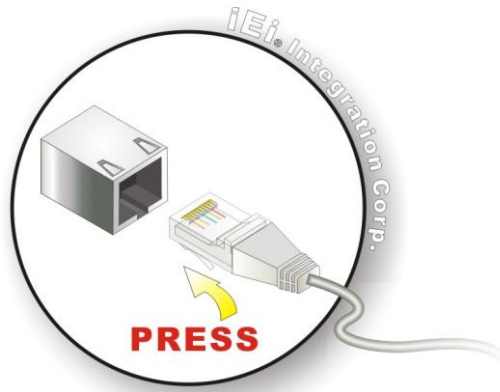

Figure 3-16: LAN Connection
Step 2: Align the connectors. Align the RJ-45 connector on the LAN cable with one of the RJ-45 connectors on the TANK-XM811 Series. See **Figure 3-16**.